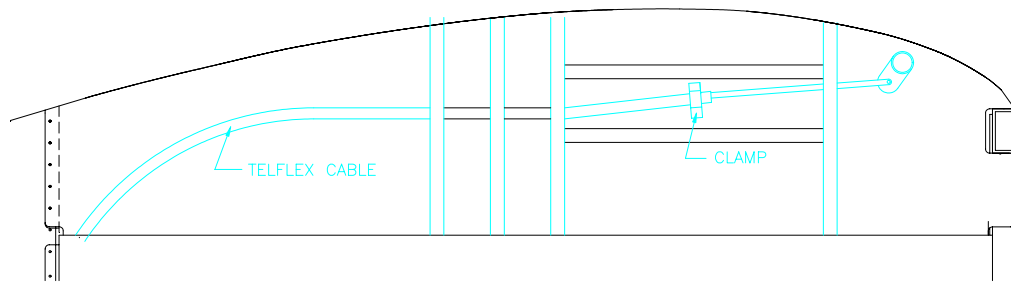

Figure 15.15.10
- 18) Place both the Flap Handle and the Flap in the retracted position. Rotate the FLAP-3-1 Control Horn to the same angle as the Flap Handle. Figure 15.15.10.